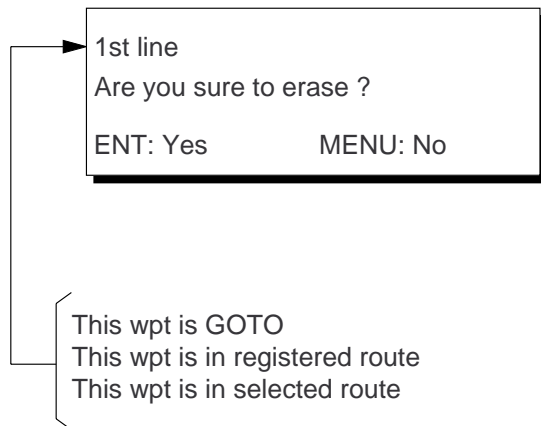

Figure 4-13
- 3) Press the [CLEAR] key. The message shown in Figure 4-13 appears if the waypoint is currently selected as destination, is part of a route, or is in the route currently selected as destination.